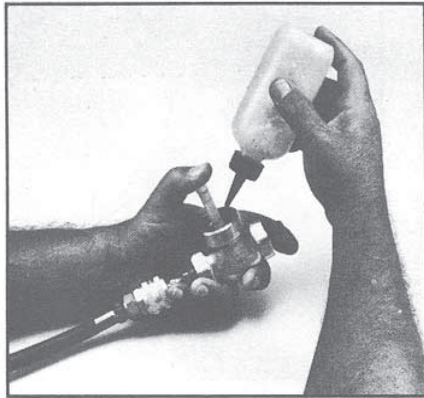

FIG. 5
4. Torque seat firmly into body with the short T- handle assembly. Check seat to body seal, by making body a bubble chamber, using a pointed plastic plug in seat to seal as shown in Figure 5 with downstream port plugged and 50 psi air pressure upstream, check for leak. If leak exists, re-torque seat and recheck until bubble-tight seal is accomplished. On smaller letter or "P" series trim sets, over-torquing seat in the body can reduce the orifice size to where interference between innervalue and seat can cause a premature mechanical failure (galling) when stroking valve.